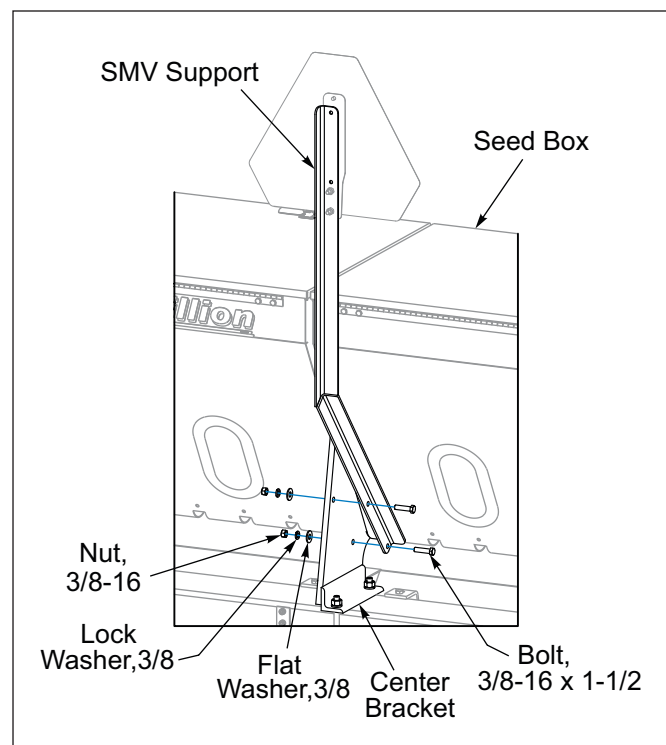

Figure 2-9: SMV Mount
5. Install SMV Support to Seed Box Center Bracket with 3/8-16 x 1-1/2 Bolts and Locknuts. **See Figure 2-9.**